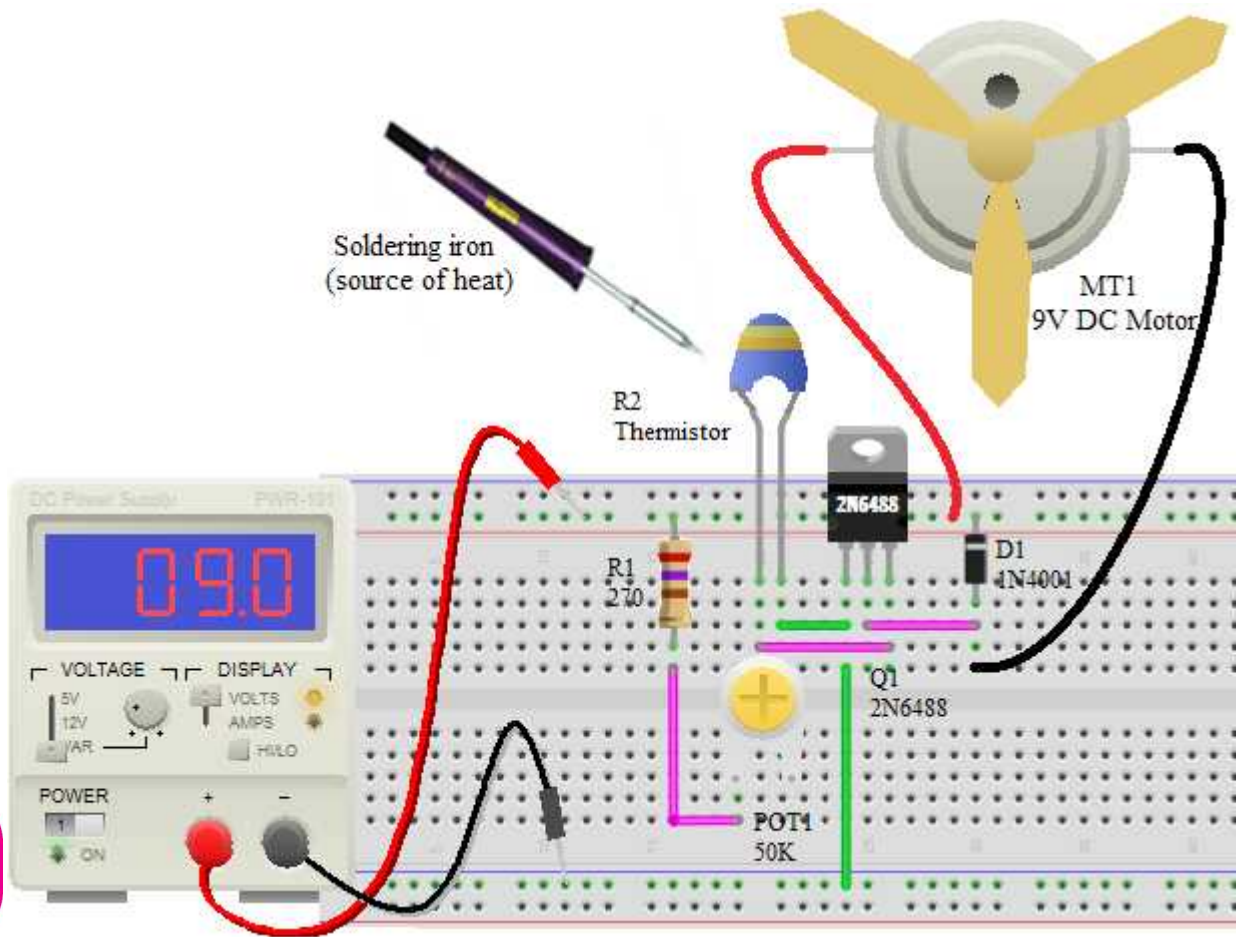

Figure 6-25: Transistor as switch with PTC thermistor for fan control circuit connection
1. Connect the circuit as illustrated in figure 6-25. Turn the potentiometer resistor POT_1 fully clockwise (high resistance = $50K$). At this point the output should be off and the motor MT_1 stops.